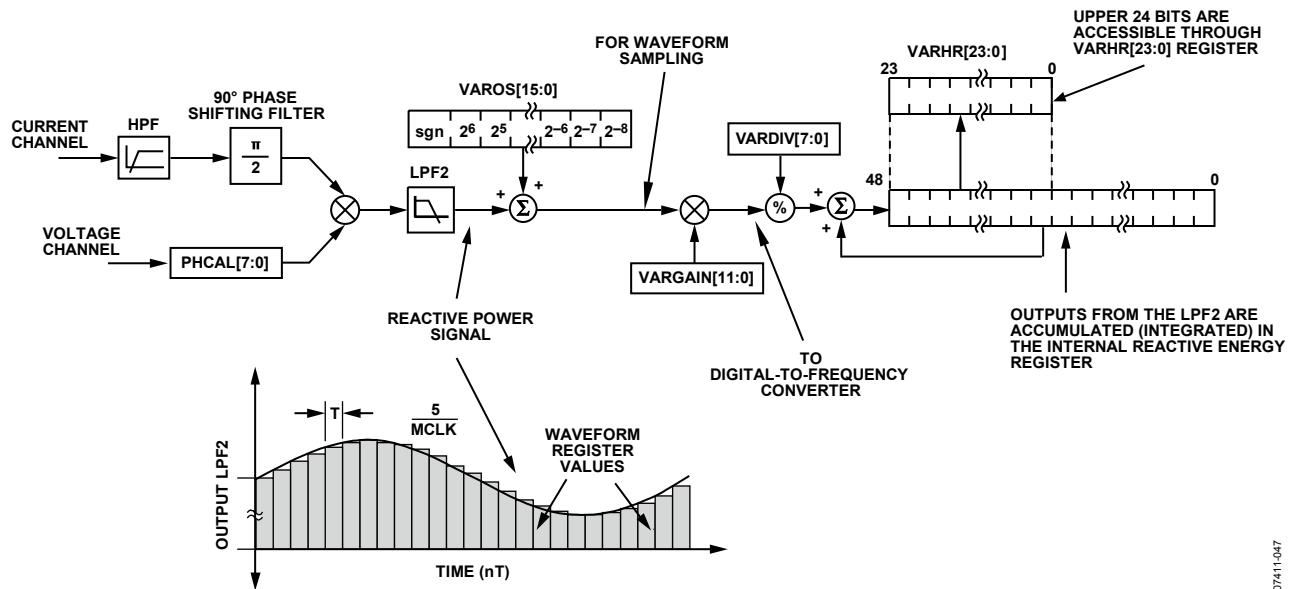

Figure 50. Reactive Energy Calculation
The instantaneous reactive power signal $q(t)$ is generated by multiplying the voltage and current channels. In this case, the phase of the current channel is shifted by 90°. The dc component of the instantaneous reactive power signal is then extracted by a low-pass filter to obtain the reactive power information (see Figure 50).
Figure 50 shows the signal processing chain for the ADE5569/ADE5169 reactive power calculation. As explained in the Reactive Power Calculation for the ADE5569/ADE5169 section, the reactive power is calculated by applying a low-pass filter to the instantaneous reactive power signal. Note that, when reading the waveform samples from the output of LPF2, the gain of the reactive energy can be adjusted by using the multiplier and by writing a two's complement, 12-bit word to the VAR gain register (VARGAIN[11:0]). Equation 23 shows how the gain adjustment is related to the contents of the watt gain register.
The ADE5569/ADE5169 also incorporate a reactive power offset register (VAROS[15:0]). This is a signed, two's complement, 16-bit register that can be used to remove offsets in the reactive power calculation (see Figure 50). An offset can exist in the reactive power calculation due to crosstalk between channels on the PCB or in the IC itself. The offset calibration allows the contents of the reactive power register to be maintained at 0 when no power is being consumed.
The discrete time sample period (T) for the accumulation register in the ADE5569/ADE5169 is 1.22 μ s (5/MCLK). As well as calculating the energy, this integration removes any sinusoidal components that may be in the active power signal. Figure 50 shows this discrete time integration or accumulation. The reactive power signal in the waveform register is continuously added to the internal reactive energy register.
As shown in Figure 50, the reactive power signal is accumulated in an internal 49-bit signed register. The reactive power signal can be read from the waveform register by setting the WAVMODE register (0x0D) and setting the WFSM bit in the Interrupt Enable 3 SFR (MIRQENH, 0xDB). Like the current and voltage channel waveform sampling modes, the waveform data is available at sample rates of 25.6 kSPS, 12.8 kSPS, 6.4 kSPS, or 3.2 kSPS.